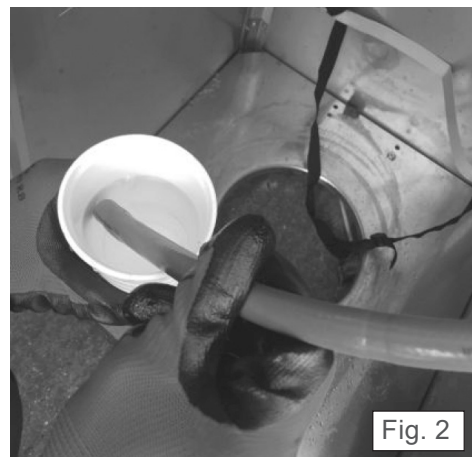
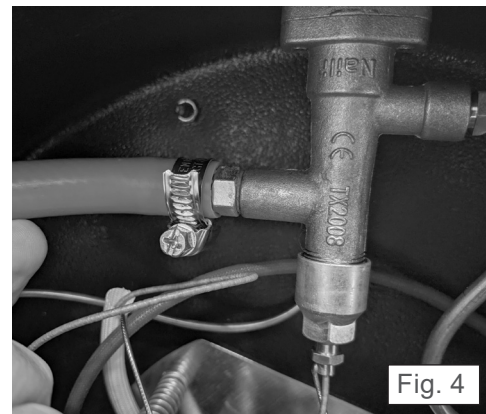

Fig. 2
Fig. 4
To assist connecting the regulator, carefully place the rubber hose into an insulated cup of boiling hot water (Fig.2). This allows the rubber hose to expand, ensure the hose clip is slid over the hose and then push the open hose end fully onto the gas regulator inlet.
Now connect the open hose end to the control valve within the burner assembly (D), again carefully place the rubber hose end into an insulated cup of boiling hot water (Fig.2). This allows the rubber hose to expand, ensure the hose clip is slid over the hose and then push the open hose end fully onto the gas inlet on the control unit as shown in Fig. 4.